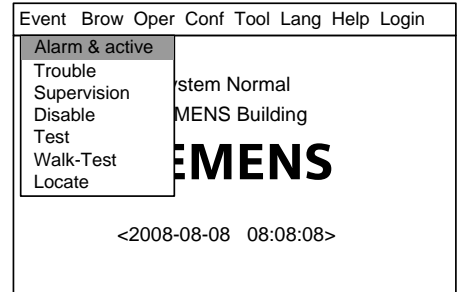

Fig.15-1
1. Press “Menu” to browse the main menu (Fig. 15-1)